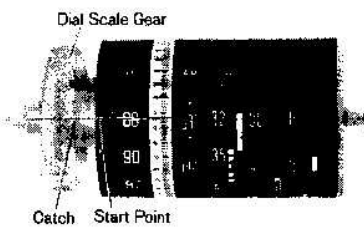

Fig. 10
- Set the catch of dial scale gear to the start point of dial scale, as shown in fig. 10.